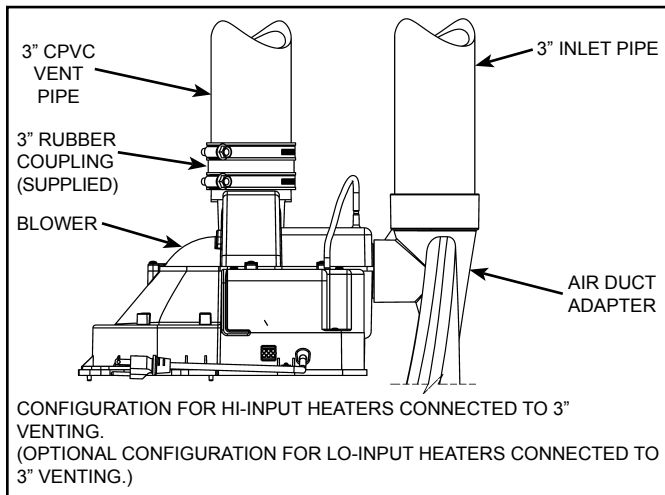
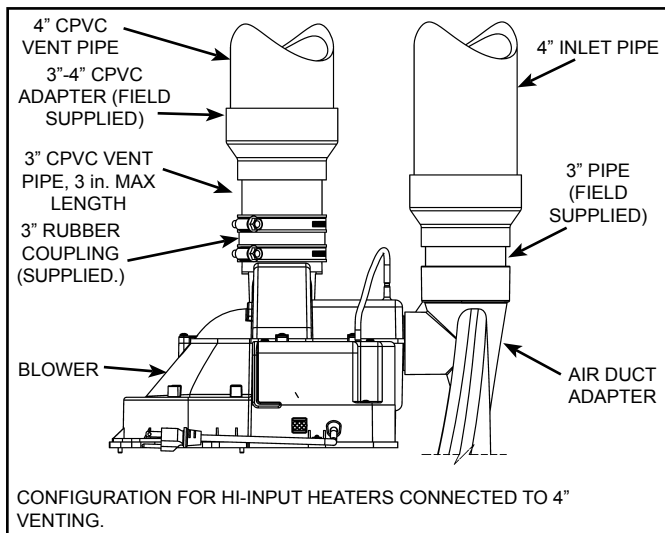

Figure 37
Figure 38
4. Make sure that the plastic tubing is still attached from the air pressure switch to the port on the blower motor housing. Make sure the plastic tubing is not folded anywhere between the pressure switch and the blower motor housing (see Figure 37 & Figure 38).
Important: These connections must be properly seated and tightened to prevent the leakage of flue gases into the area. See Figure 37 & Figure 38.